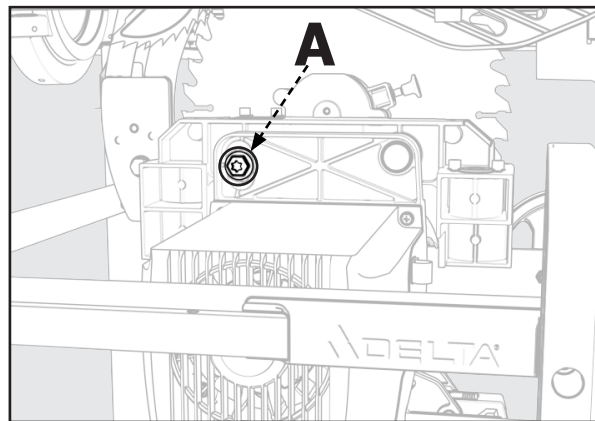

FIGURE 42
2. If the fence face (A) figure 42, is not parallel to the miter slot (B), raise the clamping lever and lift the fence and place it on the saw table.
3. Adjust the one or both of the set screws (C) 1/4 turn or less.